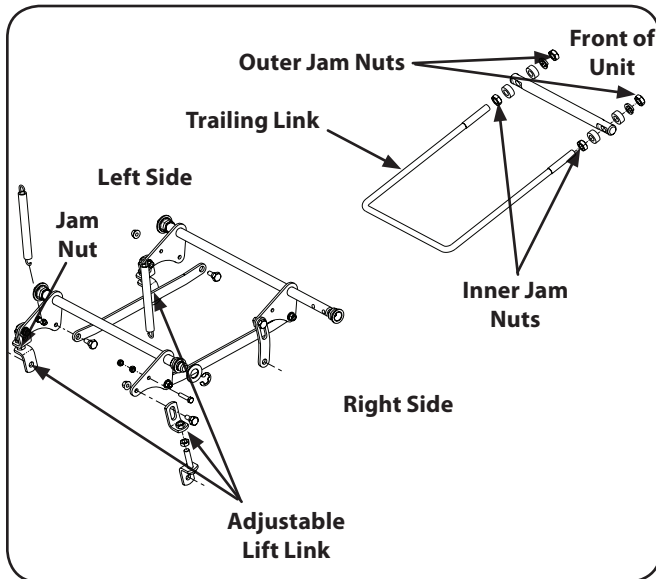

Figure 1-6
5. With a  $\frac{3}{4}$ " wrench loosen the lower jam nut of the left side of the lift link. To adjust the side of the deck up or down turn the upper jam nut clockwise (to raise) or counter clockwise (to lower) a few turns. See Figure 1-6.
8. The final adjustment would be to set the Trailing Link by adjusting the jam nuts on the threaded link. Loosen the jam nuts and tighten the inner nut to achieve the correct length and belt tension. See Figure 1-6.
To tighten or loosen the tension on the belt, tighten or loosen the jam nuts on the U-rod, see Figure 1-6, until a ten-pound pull with a spring scale deflects the belt about  $\frac{1}{2}$ ".